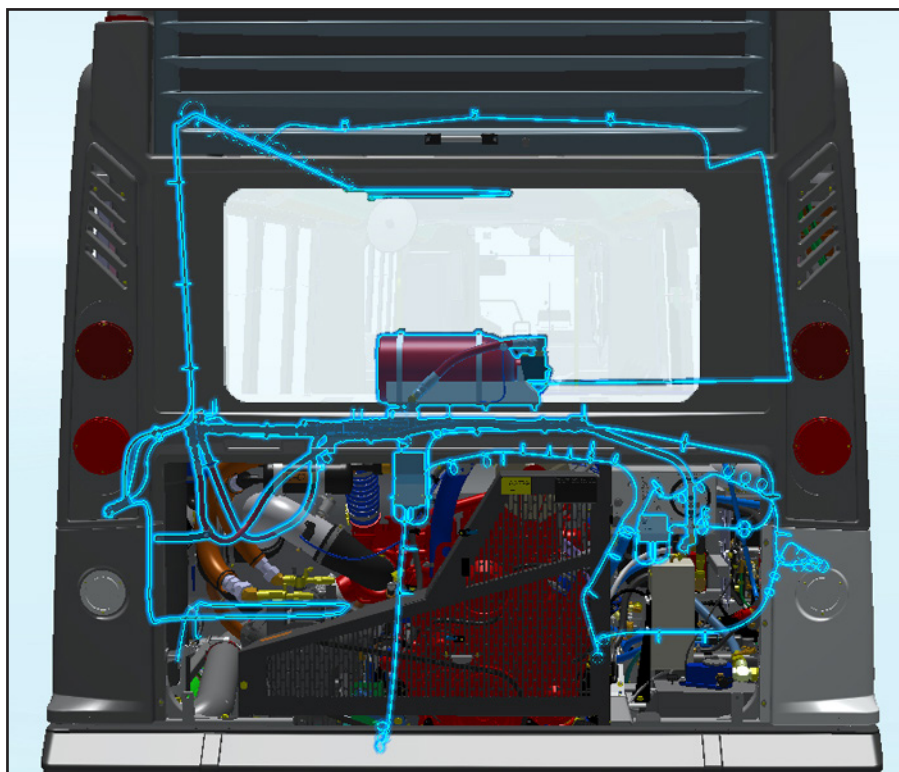

Figure 1 - Rear Components of the Kidde Fire Suppression System (Highlighted in Blue)
- 1.2. Locate the fire suppression system. See Figure 1.